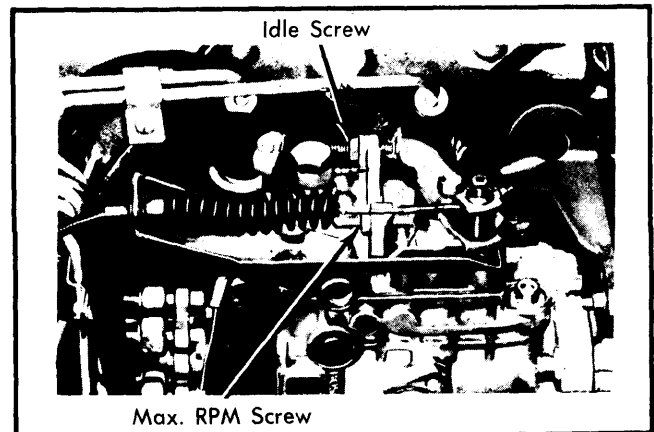

Fig. 3 Adjusting Idle Speed and Maximum Speed
2) Connect diesel tachometer (VW 1367) according to instructions from manufacturer. Adjust speed to specifications with idle adjusting screw. Tighten lock nut. See Fig. 3.